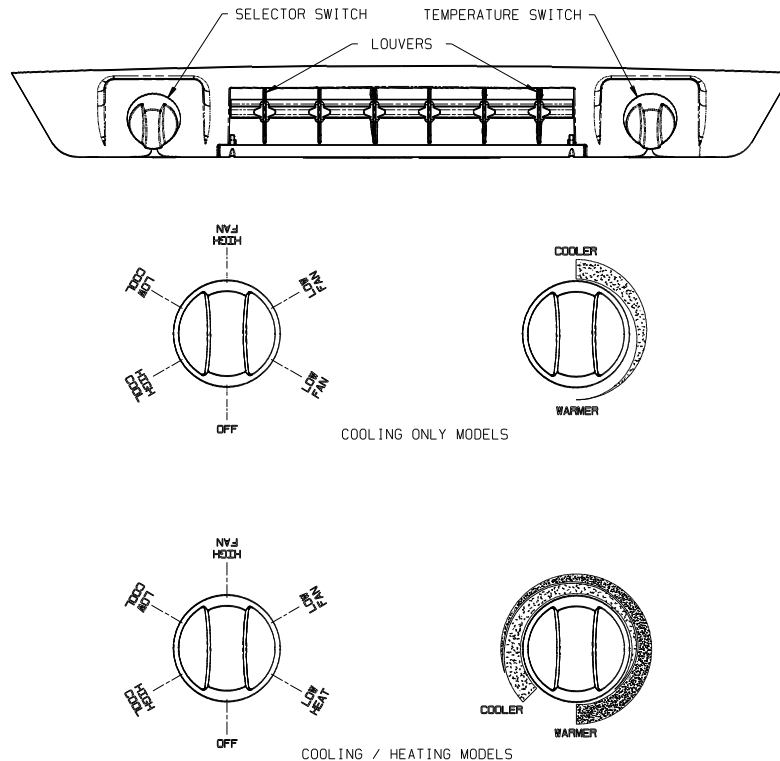

FIGURE 1
A. The Selector Switch – The selector switch determines which mode of operation the air conditioner will be in. By rotating the selector switch, the operator can obtain any system function desired. System functions vary depending upon options of both the roof top unit and ceiling assembly. Figure 1 shows selector switch location and lists all available functions by model.
- B. The Thermostat (temperature control) – The thermostat regulates the “ON” and “OFF” temperature setting at which the compressor will operate (See Figure 1).
- I. **For Cooling (Refer to Figure 1, page 3).**
IV. For Heating (Refer to Figure 1, page 3).
V. For Air Circulation Only (Refer to Figure 1, page 3).